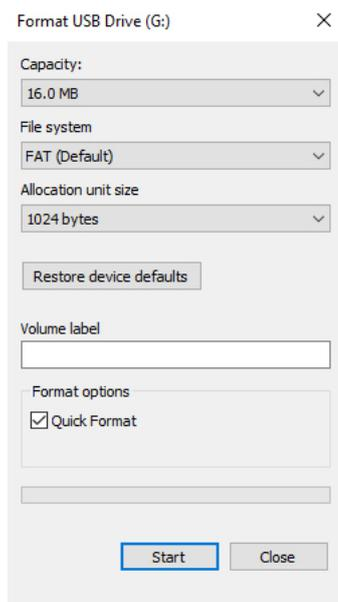

Figure 2 Memory unit format settings
- In case the user wants to format the drive, the computer will detect the memory unit size, which is 16 MB, and FAT (Default) for file system and 512 bytes for allocation unit size maybe selected automatically by the computer. Allocation unit size must be selected manually as 1024 bytes so this mode can work properly. Quick format option must be kept checked. The required format settings are shown in figure 2.